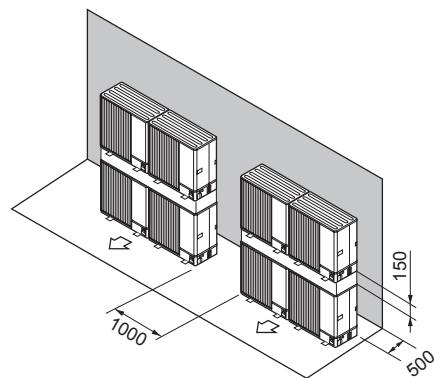

Fig. 4-36
- ⑦ Stacked unit arrangement (Fig. 4-36)